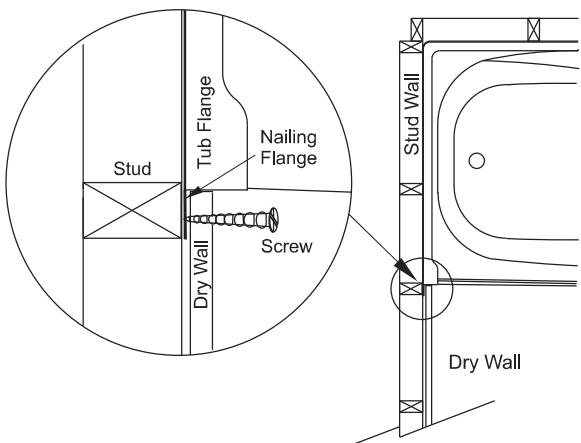

**FIGURE 3 - BA5 FASTENING WITH DRYWALL SCREWS**
- The shower is fastened in place using dry wall screws. Holes are to be drilled in by the installer around the top periphery as shown in figures 3 and 4.